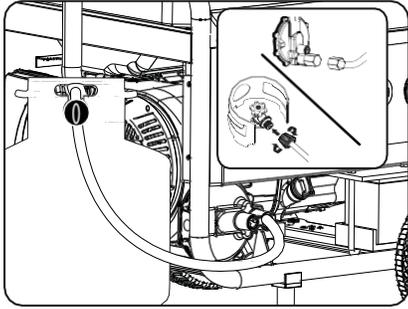

Fig 8
- Connect the propane hose to the propane tank and generator; Open the valve of LPG bottle (See fig 8)